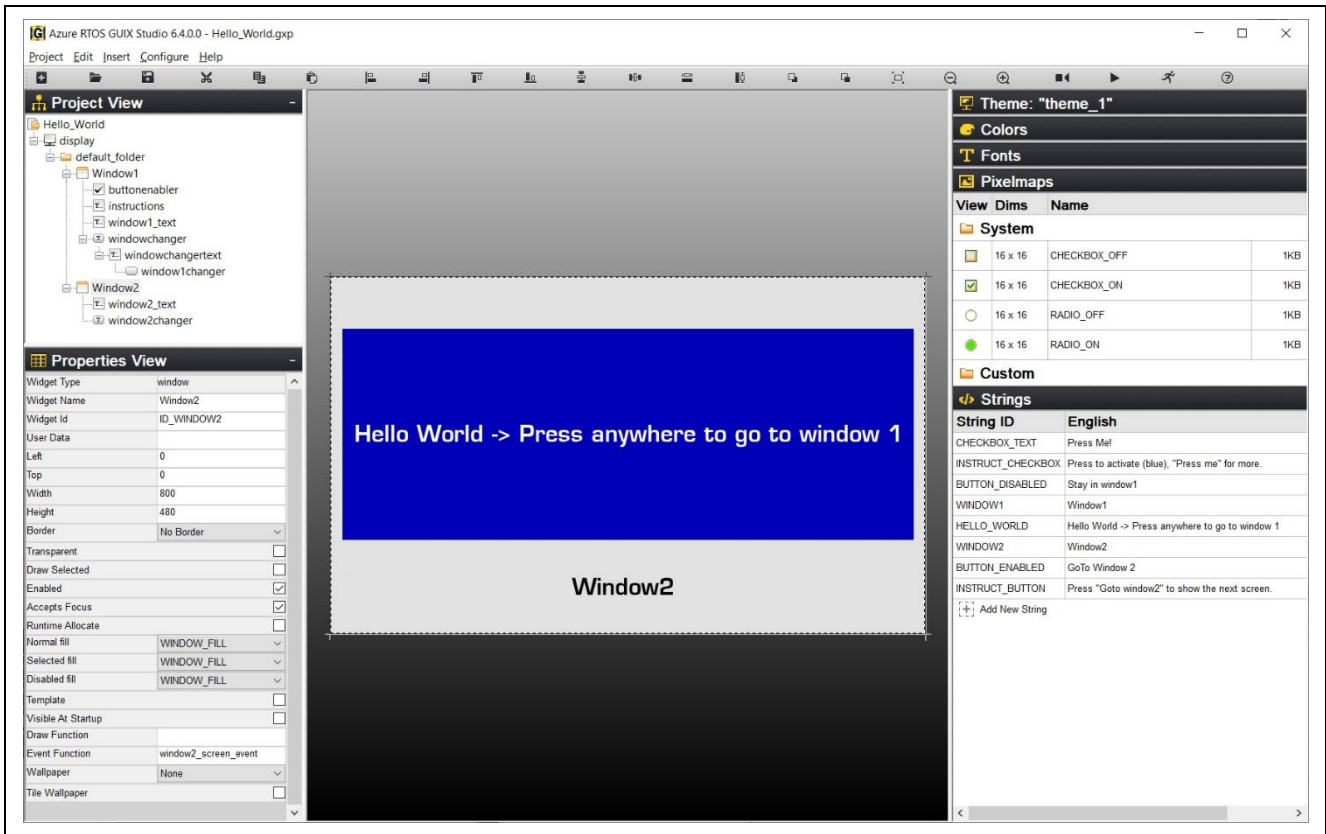

Figure 67. Window2
30. After Insert and configuration. Window2 looks like **Figure 67**.